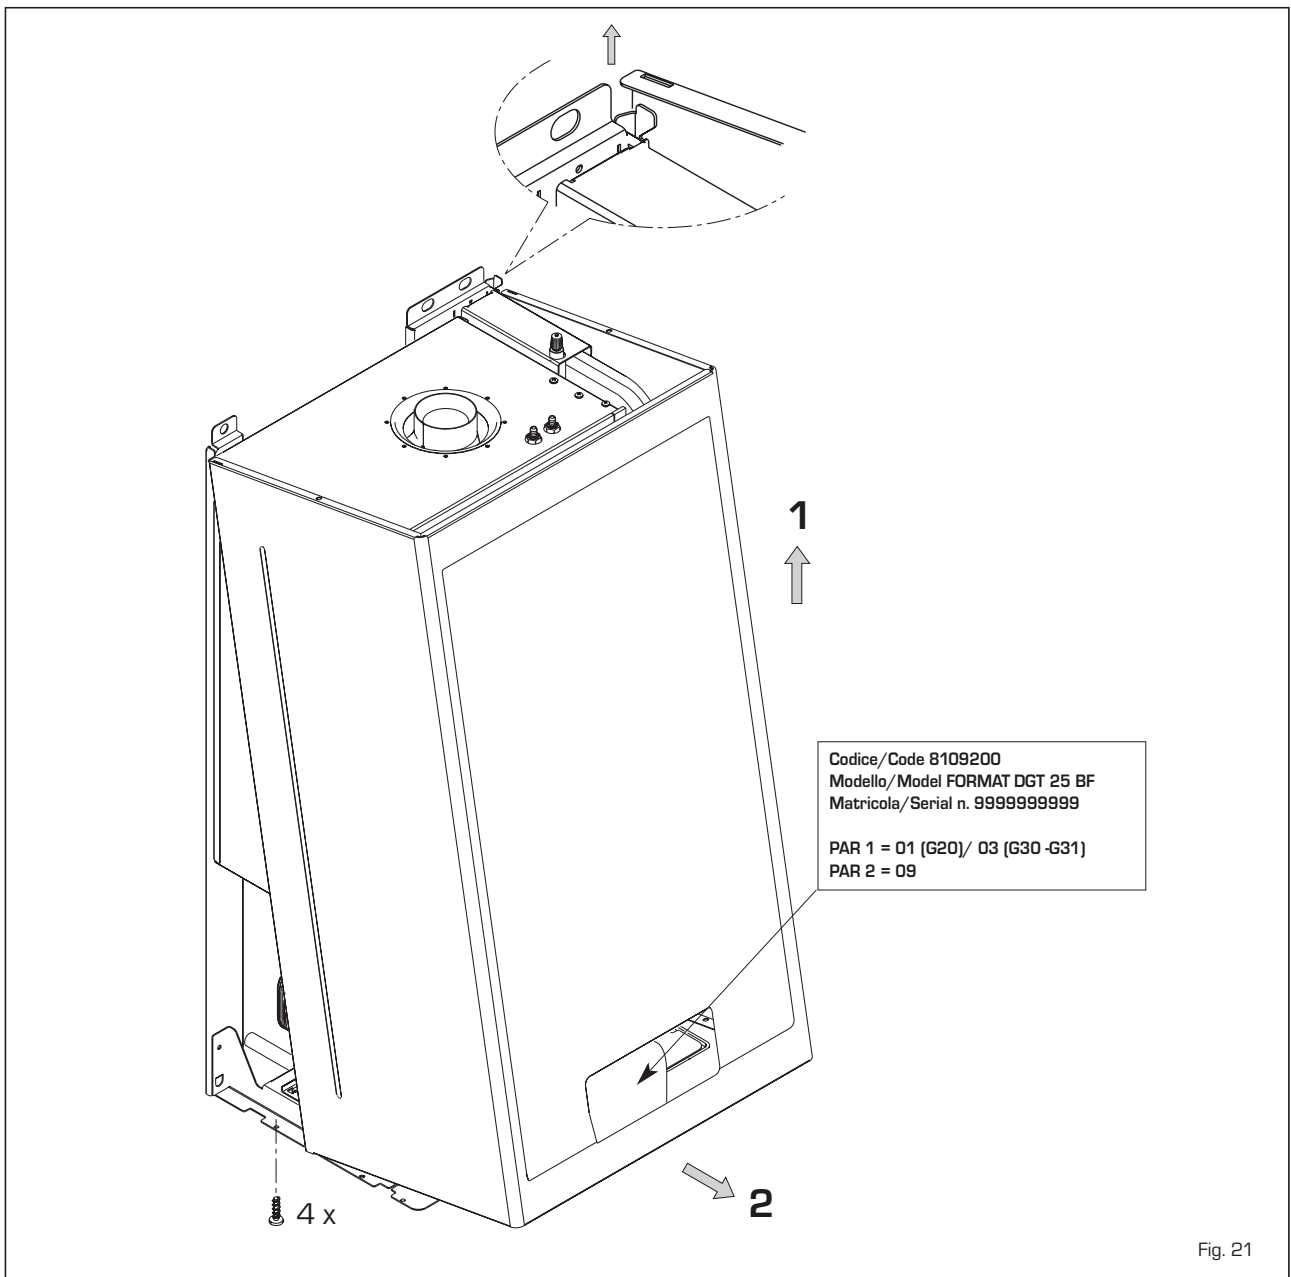

Fig. 21
4.3 DISMANTLING THE CASING (fig. 21)
The casing may be removed completely to facilitate boiler maintenance, as shown in fig. 21. Turn the panel control forward for access to the internal components of the boiler.